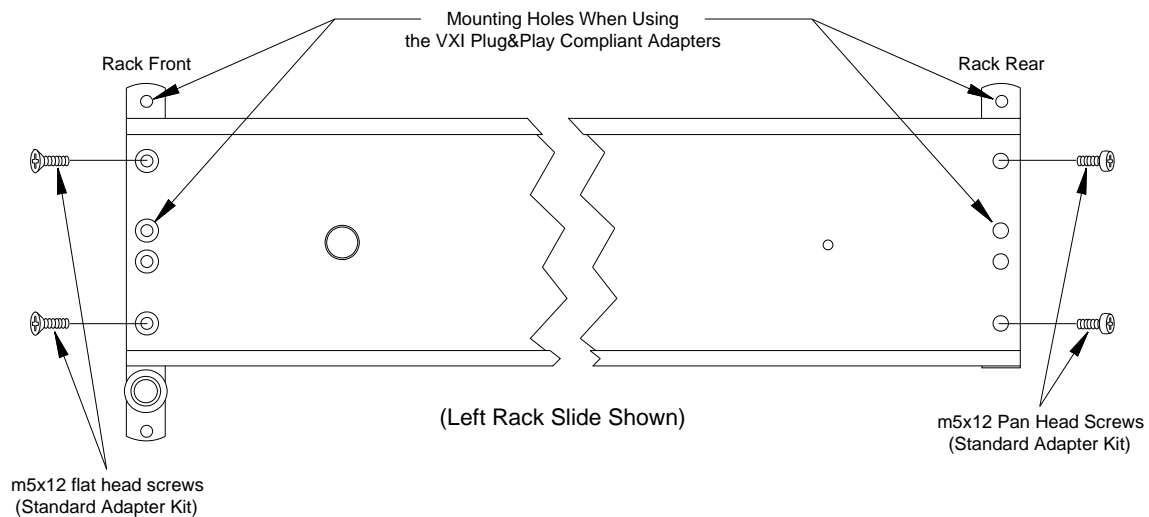

Figure 2-9. Installing the Rack Slide Stationary Sections
6. Attach the stationary section to the rack's front inside rail through the channel nuts. Use two m5x12 flat head screws. Attach the stationary section to the rear inside rail using two m5x12 pan-head screws (Figure 2-9).